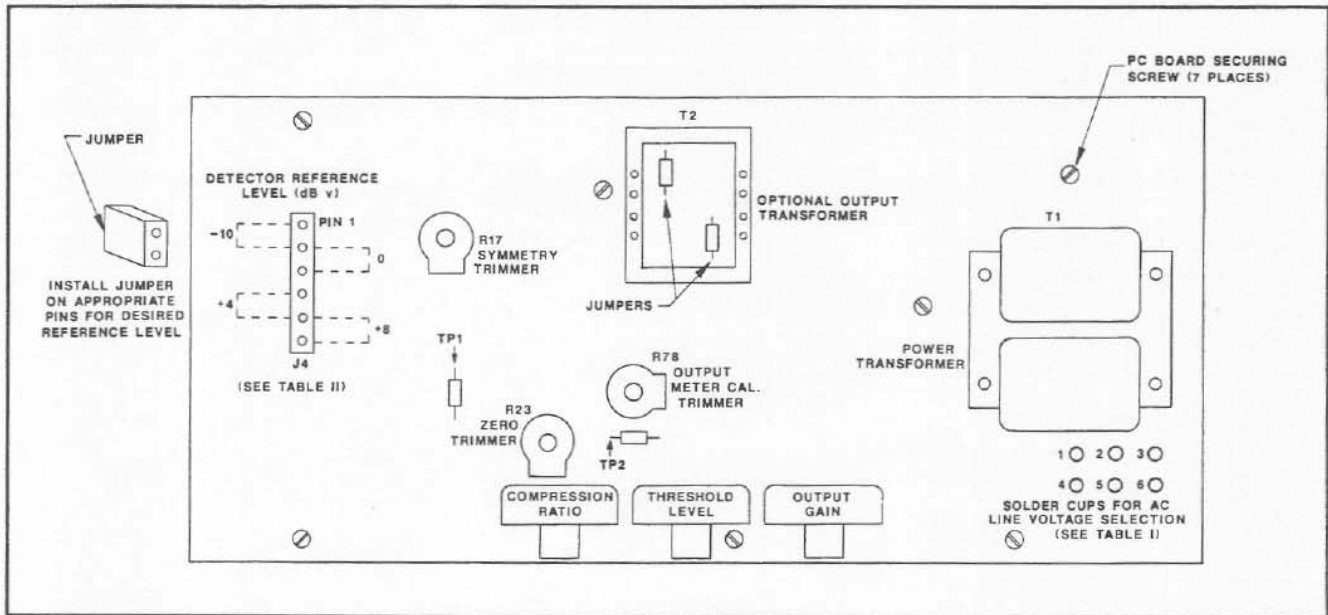

Figure 1 Location of Pertinent Components on Circuit Board
3. Locate the six voltage select solder cups near the power transformer. Referring to Figure 1, reconnect the lead corresponding to the desired primary voltage.
3. Remove the seven screws securing the printed circuit board. Locate the mounting holes near the top of the circuit board. See Figure 1 for these locations.
3. Select the desired nominal level by placing the jumper on two pins of the six-pin male connector (J4) located near the upper left edge of the circuit board as shown in Figure 1. Table II shows the pin numbers to be connected for each available refer-
4. Feed a 1 kHz signal at the selected nominal level (the level desired for a "0 dB" meter indication) to the signal input. Then adjust the meter calibration trimmer (R78) located near the center of the circuit board until the meter indicates "0 dB". See Figure 1 for location of calibration trimmer.